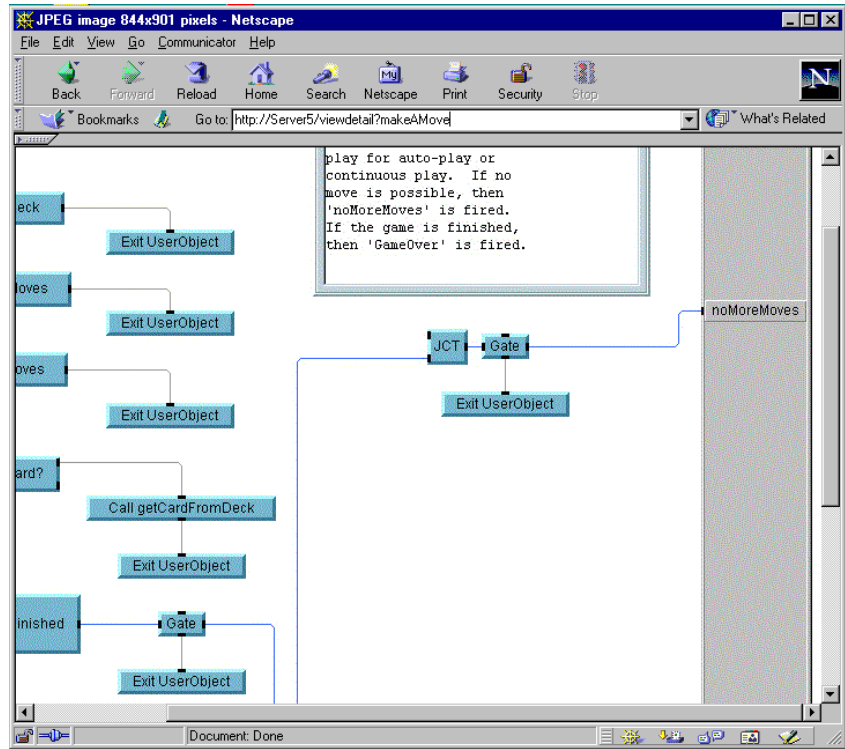

Figure 304 Detail View of a UserFunction Displayed in the Browser
- 6 The remote user goes back to the VEE Web Server Home Page once again and clicks on Detail View of UserFunction, and types in the UserFunction name `makeAMove`. The browser displays the UserFunction `makeAMove` as shown in Figure 304.
The remote user is able to see the error in the VEE program. There is an input pin not connected on the JCT object shown in Figure 304. The remote user could now help you troubleshoot **Solitaire.vee** and resolve the error. Using a similar process of working together over the Web, you could collaborate with remote users or develop programs together.